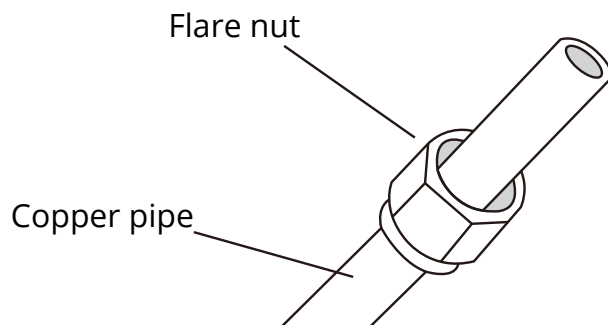

Fig. 2.11
3. Remove the cut-off valve of outdoor unit and take out the flare nut from the bag of indoor unit accessories. Fit the flare nut on the pipe - see **Fig. 2.11**.